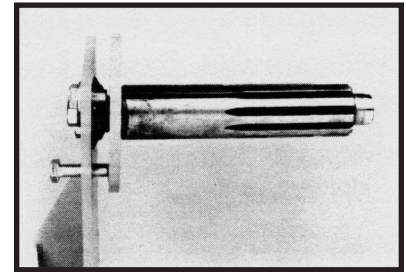

Figure 2
4. Use the adjusting screw to change the angle of the input shaft so it matches the angle of the vehicle clutch assembly. See Figures 2 and 3.